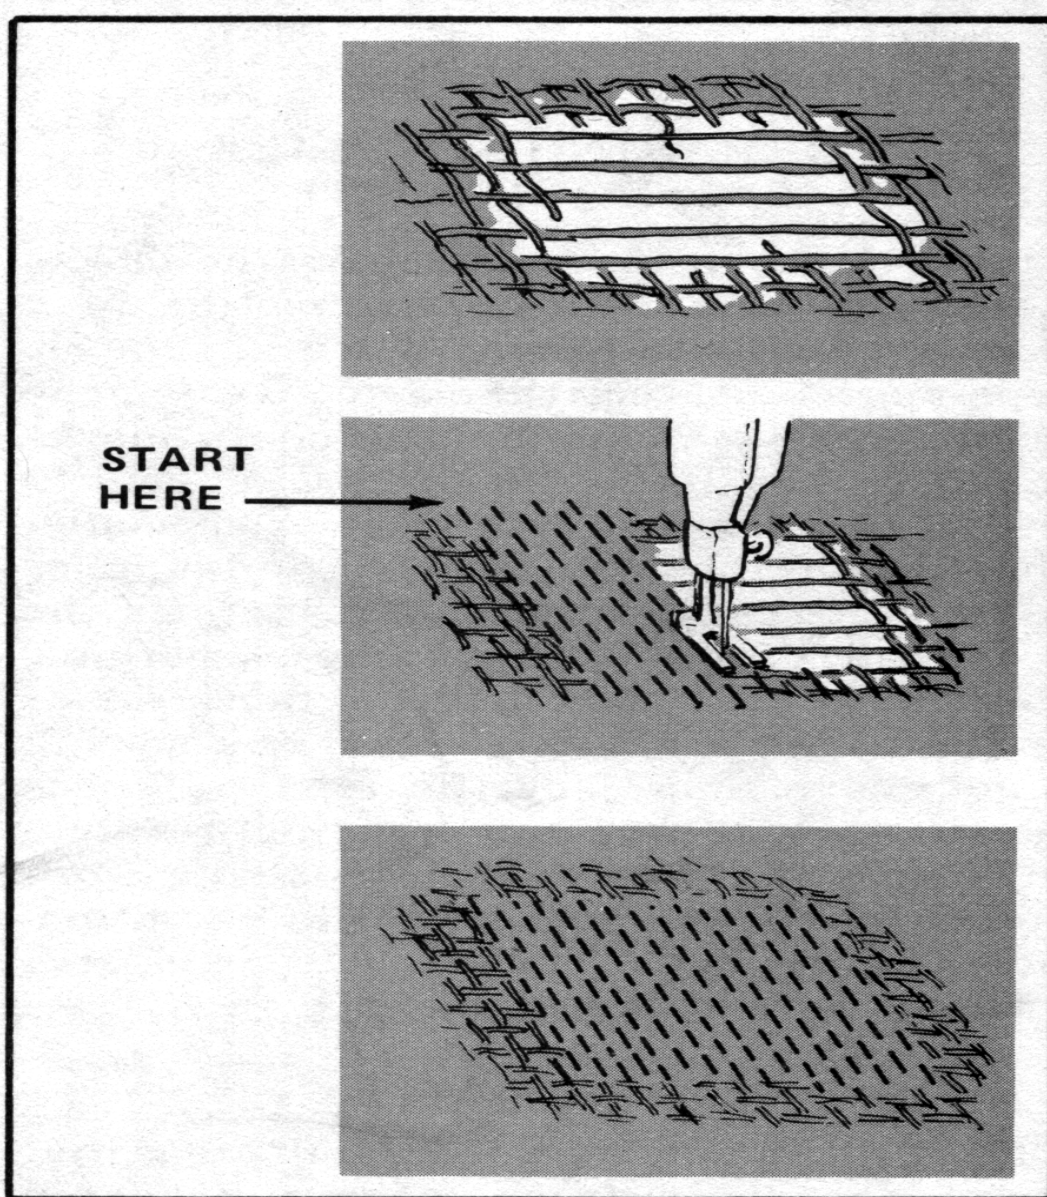

Figure 4-2. One-way darn
b. **One-way Darn.** The one-way darn (Figure 4-2) is used to repair small worn areas of cloth where either the vertical or horizontal threads have worn away and left the other threads loose. To make a one-way darn--
- (1) Turn the cloth faceup.
- (2) Start and end the stitching in the undamaged area about 1/4 inch from the worn spot.
- (3) Stitch back and forth either horizontally or vertically across the worn spot to replace the missing threads. Stitch all rows parallel and as close together as possible without overlapping them.